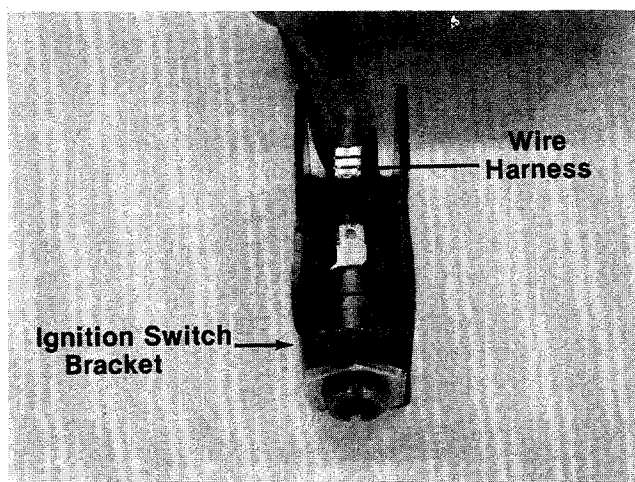

FIGURE 10.
16. Make certain the two ends on the wire harness (already attached to the engine) are plugged into the terminals on the ignition switch bracket. See figure 10.